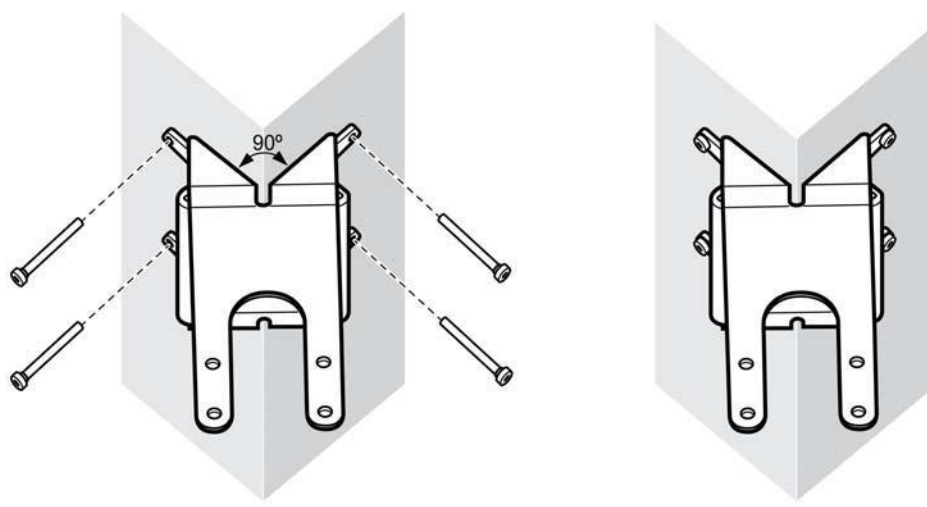

Figure 42 Attaching the bracket to the corner of the wall
- 2 Drill holes at the four marked positions, and use the four screws to attach the bracket plate to the corner of the wall. Ensure that the brackets are aligned as shown in the Figure 42.